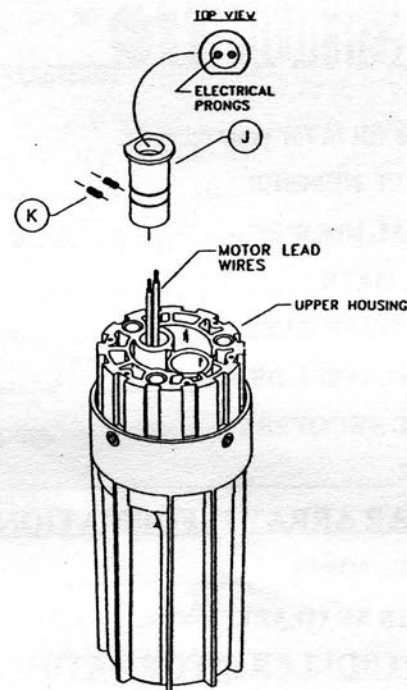

FIGURE 14
**10) Connect the Receptacle (Cable Adapter) (Part J) (Fig. 14, page 13).**